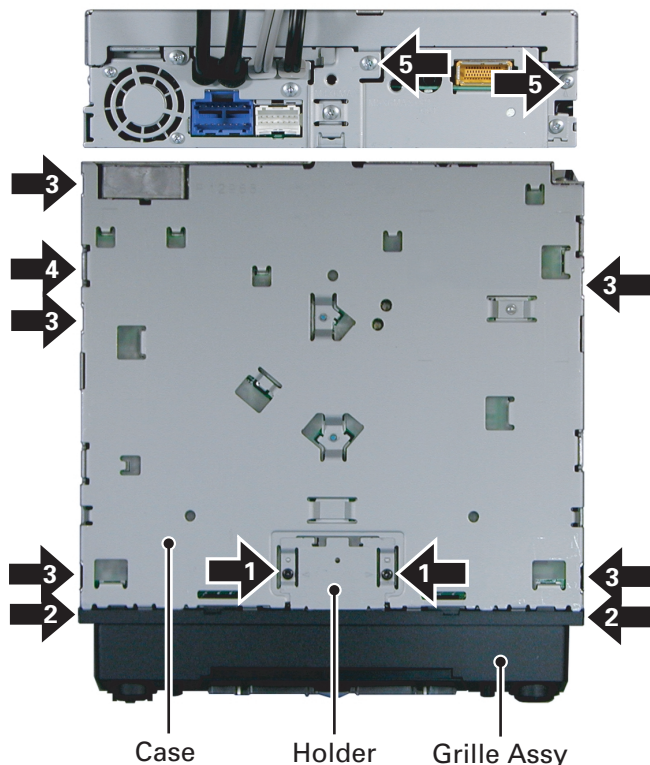

Fig.1
● Removing the Grille Assy (Fig.1)
- ➡ **3** Remove the five screws.(Fig.1)
- ➡ **4** Remove the screw.(Fig.1)
- ➡ **5** Remove the two screws and then remove the Case.(Fig.1)